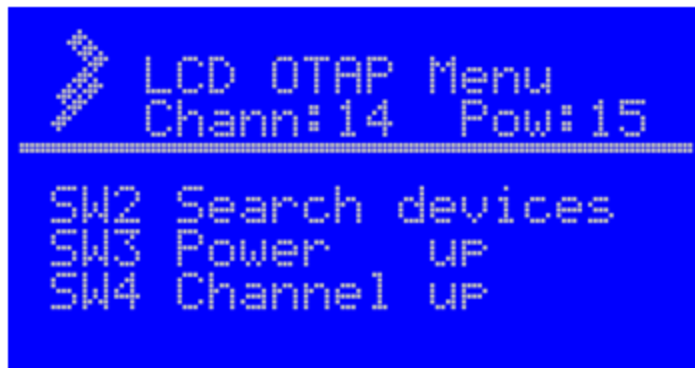

Figure 10-17. LCD OTAP Menu
2. Press SW1 on the OTAP Programmer Board. The OTAP menu appears as shown in Figure 10-17.